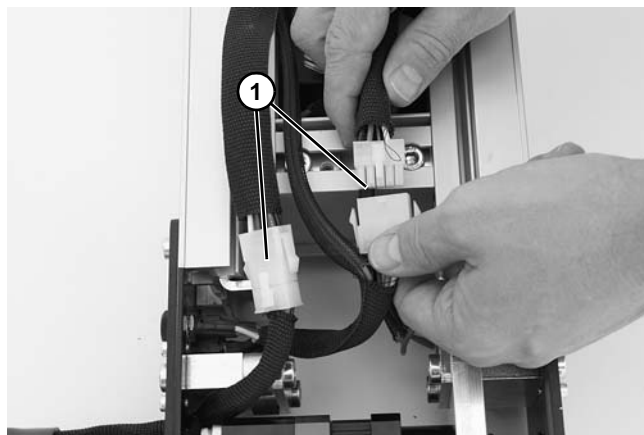

Figure 145
3. Disconnect two wiring harness connectors (**Figure 145, item 1**).